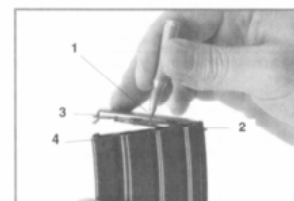

Fig. 61
To disassemble the magazine for cleaning or inspection, push in the locking plate (1) with a cleaning rod, or cartridge. As you depress the locking plate through the window of the floor plate, pull back towards the rubber bumper (where applicable) (2) so the locking tab (3) will exit the locking window (4) of the housing. When the locking tab lifts up, the floor plate (5), locking plate (6), spring (7) and follower will come out under pressure from the housing (8). The floor plate is easily removed from the locking plate, which is attached to the spring and follower. Take note as to the arrangement of these parts for assembly. For cleaning purposes, it is not necessary to disassemble the follower and locking plate from the spring (Fig. 61 and 62).